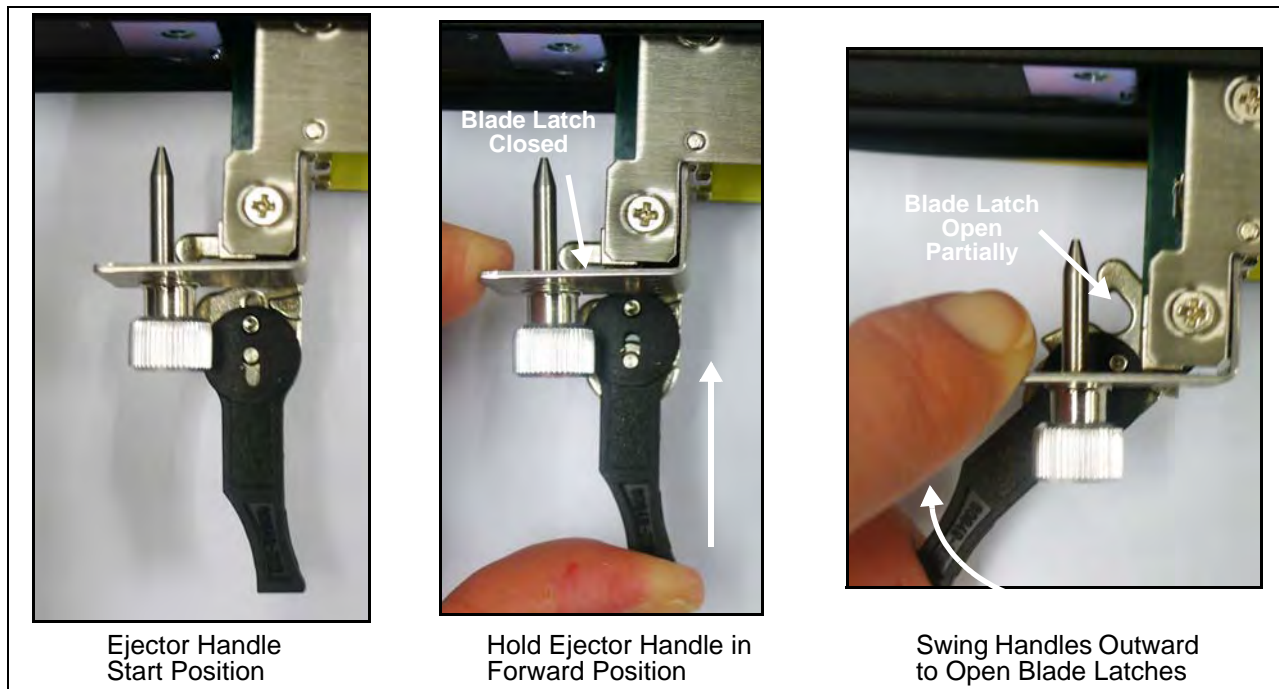

Figure C.27 - G10 IIC Ejector Handle (Left) - Opening Blade Latch
2. While keeping the blade still, push and **hold** the ejector handles in the forward position (they will click into place). While continuing to hold the handles in the forward position, swing the handles outward to open the blade latches (**Figure C.27**).